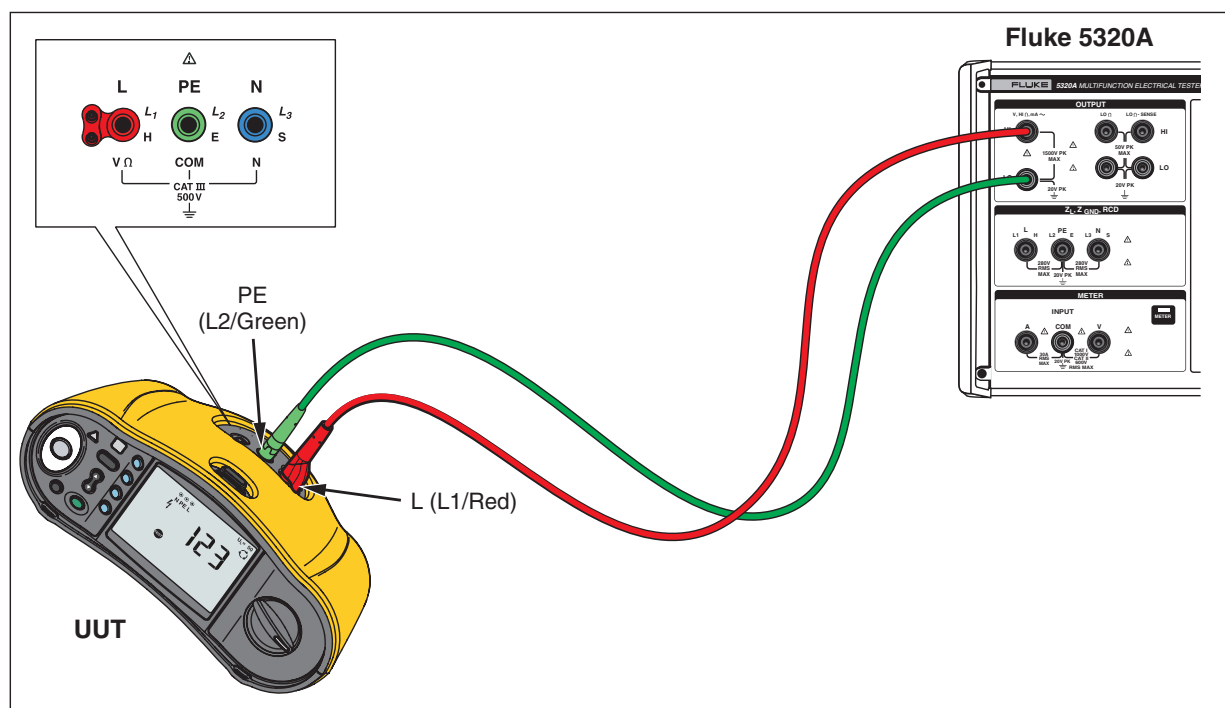

Figure 4. Volts and Insulation Accuracy Tests
- Connect the PE and L input jacks of the Tester to the Calibrator V, HIΩ, mA~ Output terminals as shown in Figure 4.
3. Connect the L and PE input jacks on the Tester to the Calibrator V, HI Ω , mA~ Output terminals as shown in Figure 4.